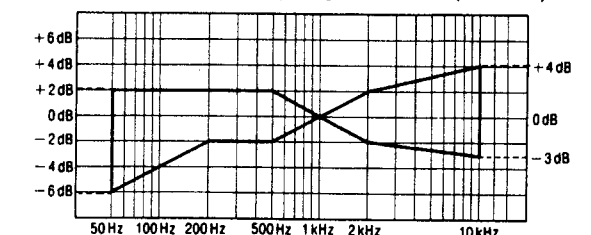

Fig. 8
5. Play back the test signals just recorded and verify that the levels at the test frequencies fall in the ranges specified in Fig. 8 with respect to the reference signal level.